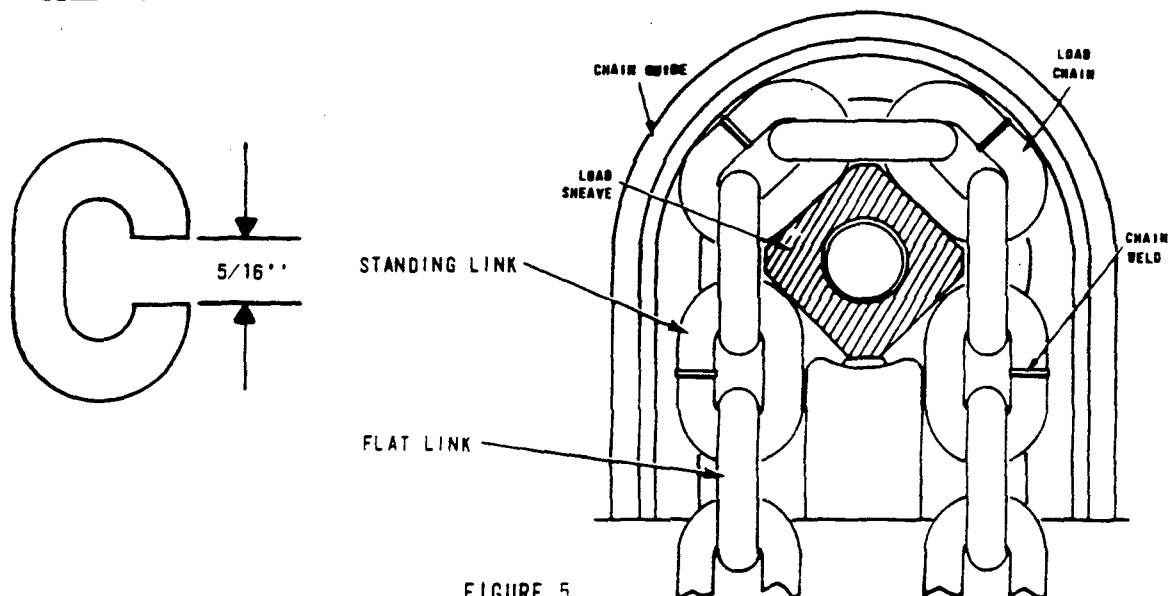
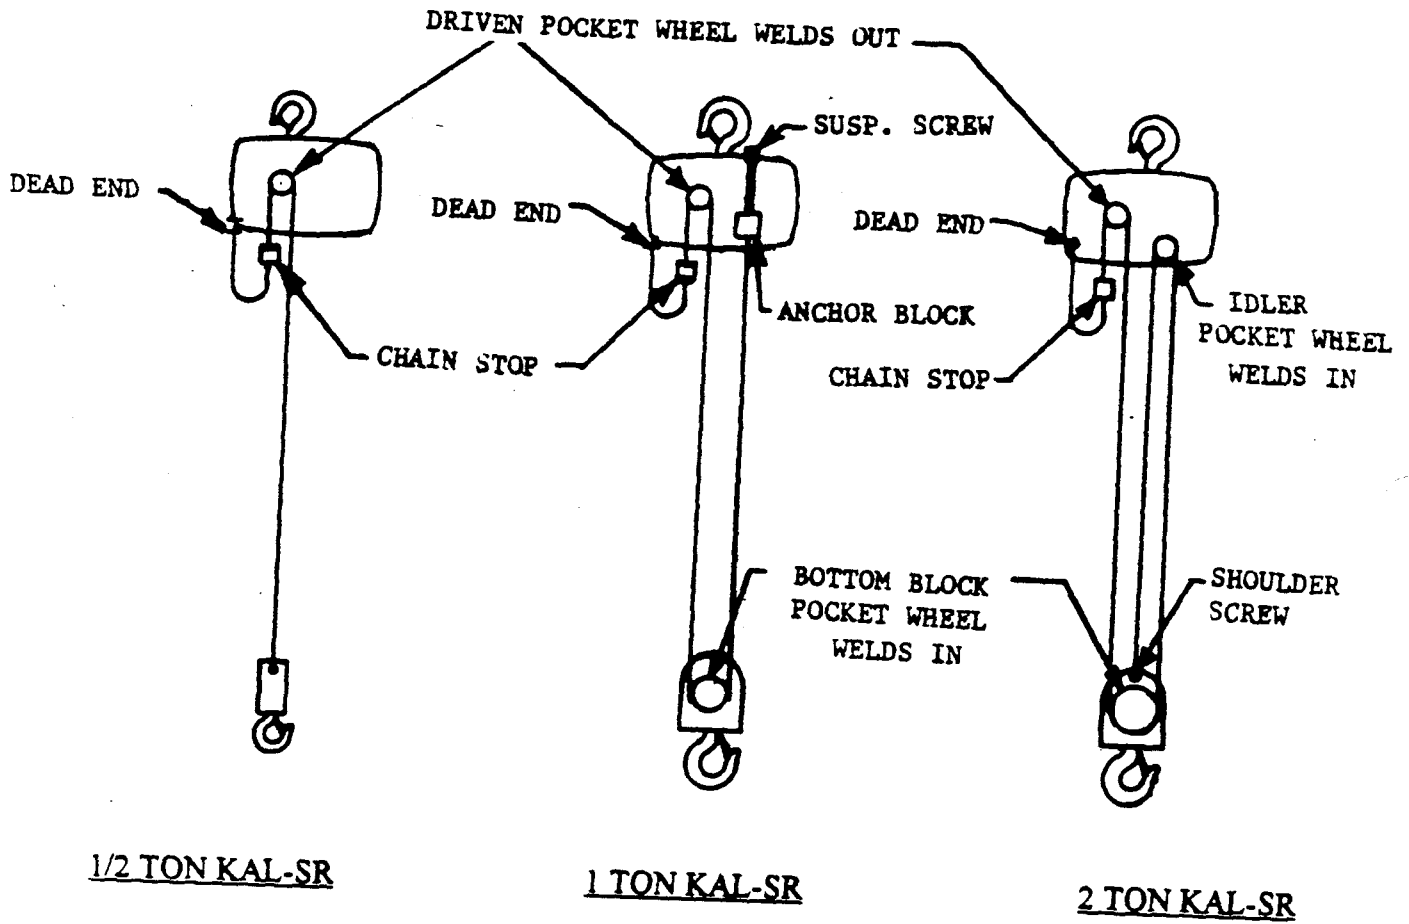

FIGURE 5.
FIGURE 6
- (e) Connect the new chain to the old using the notched link. Be sure the welds of the standing links (links turned perpendicular to the sheave) face away from the driven pocket wheel. On 1/2, 1 ton KAL-SR units the first link of the new chain must go on flat. On 2 ton KAL-SR units first link of new chain must go on standing. Use 2 notched links if necessary. See Figure 5 above and Figure 6, Page 20.